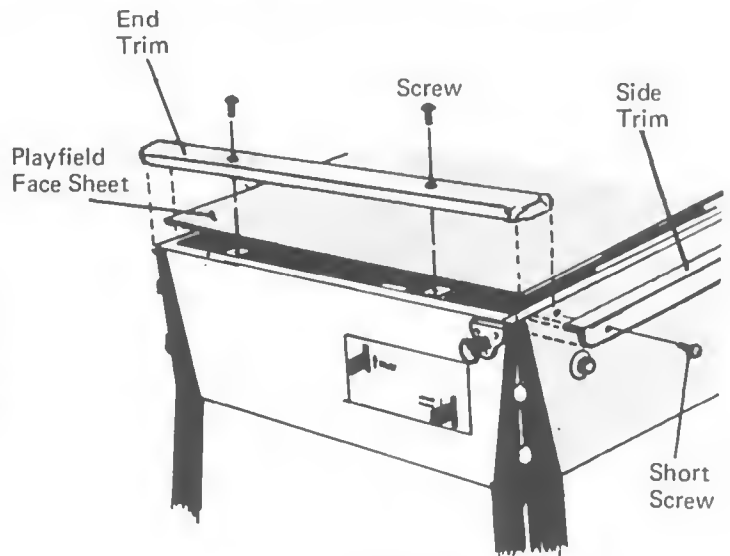

FIGURE 1
1. Remove the two screws from the end trim as shown in Figure 1. Set end trim and the attaching screws aside.
2. Remove the six (6) screws attaching the side trim pieces (3 screws per side trim). **NOTE:** The short screw at the foot end of unit must be re-installed in the same location when re-assembling. (See Figure 1). Set the two side trim strips aside.